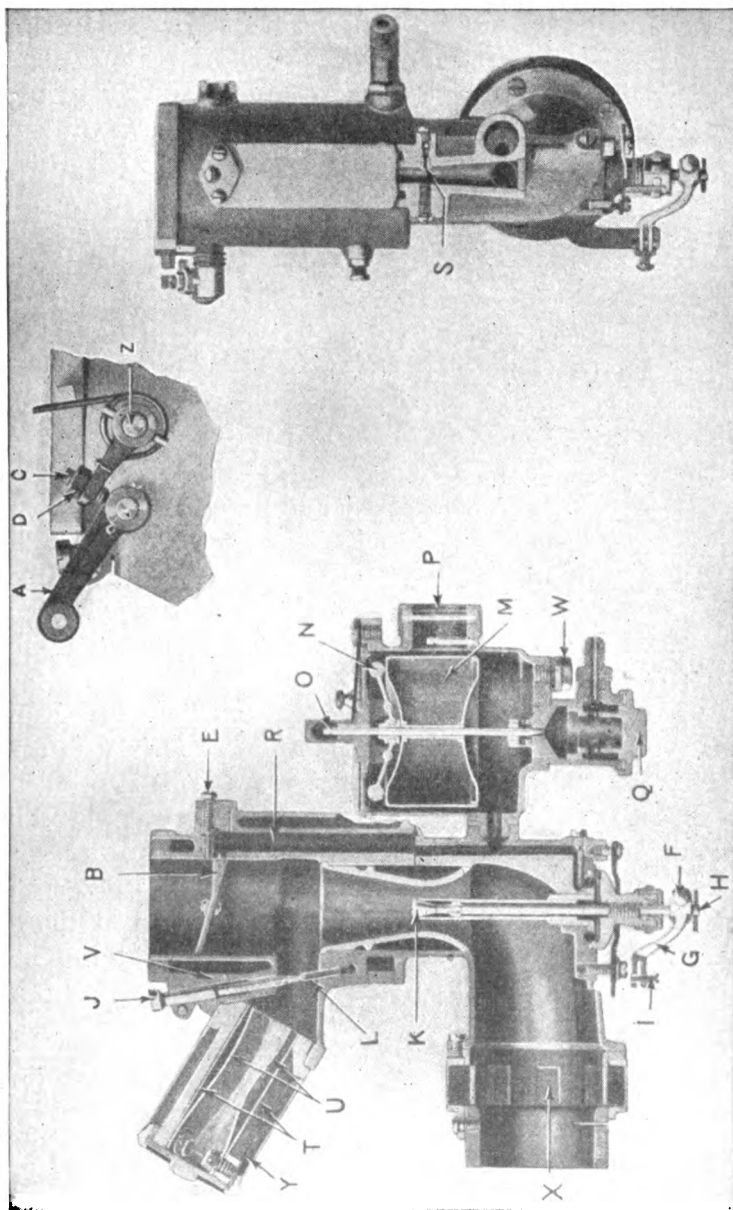

Fig. 120. Pierce-Arrow Carburetor
**Pierce-Arrow Carburetor.** This carburetor utilizes a little different principle in the introduction of auxiliary air from most other carburetors as the air passes through reeds in somewhat the same manner as in the Tillotson carburetor. Fig. 120 shows the construction of this carburetor. The gasoline level should be  $\frac{5}{16}$  inch below the top of the spray nozzle *K*. The opening of the spray nozzle is regulated by a valve *H* when the throttle is practically closed. The air entering the carburetor at *R* is thoroughly mixed with gasoline regulated by the nozzle *S*. The amount of mixture entering the cylinder is regulated by the adjusting screw *E*, which is really a throttle for the small passage *R*. The three auxiliary air reed valves are closed. As the throttle *B* opens, the suction is greater through *R* than through the main passage for a short period and then becomes the same in both. As the motor speeds up, the light, intermediate, and heavy reeds open in succession, admitting more air. In setting the reeds, the distance between the reed valves and the supplementary springs should be  $\frac{1}{8}$  inch for the light reed and  $\frac{5}{32}$  inch for the intermediate and heavy reeds. There is a supplementary spray nozzle *L*, provided with the adjustment needle valve *J*. This spray nozzle comes into action when the motor is operating at high speeds and the reed valves are open.